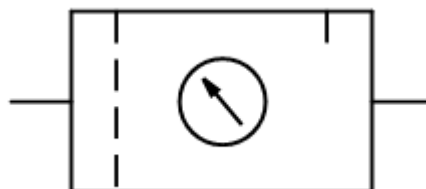

FIG 3.
C. The simplified symbol for a service unit is shown in Fig 3.